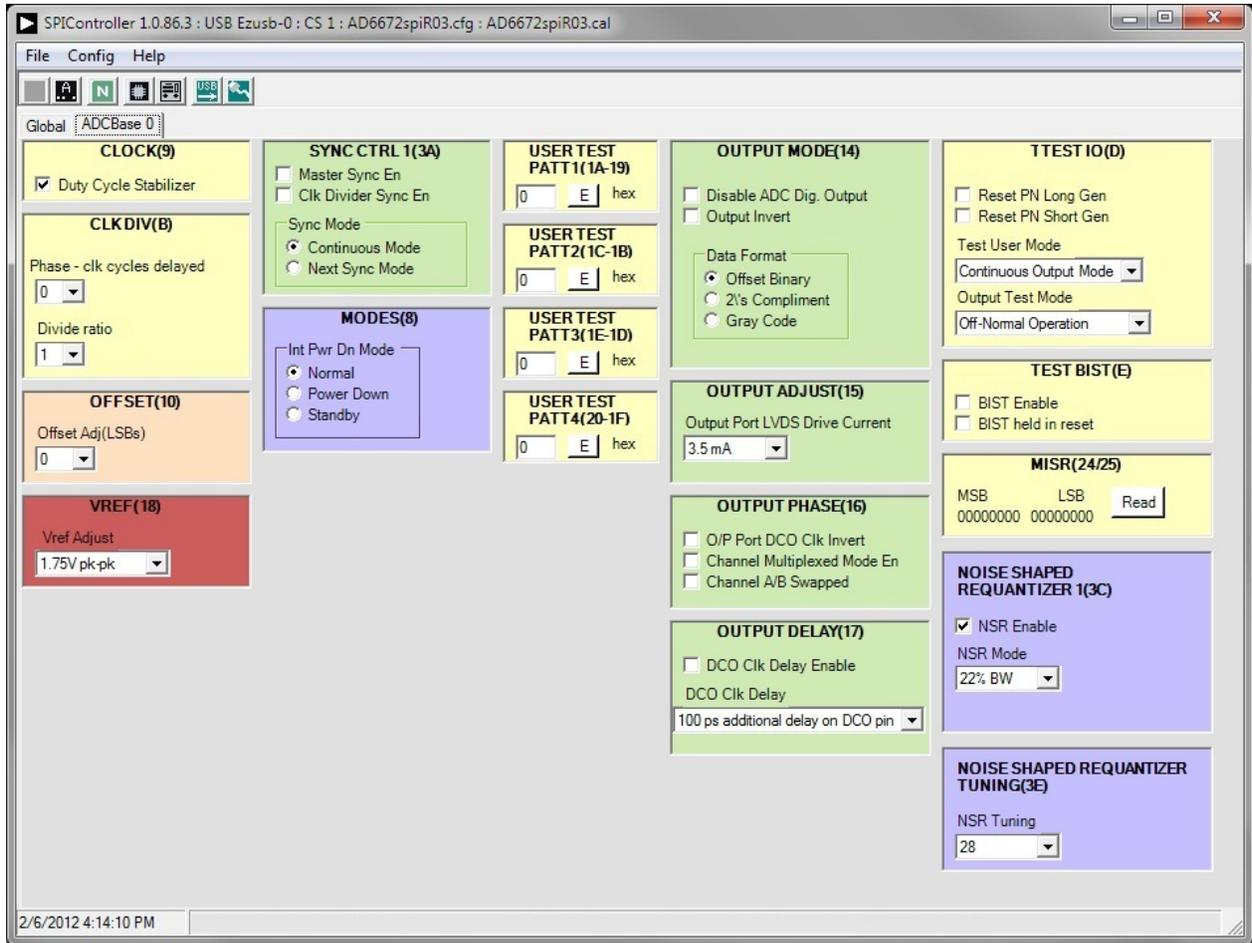

Figure 11. SPI Controller, Example ADCBase 0 Tab—NSR Settings for the AD6672
4. If using the noise shaping requantizer (NSR) feature of the AD6672, the settings in the ADCBase 0 tab must be changed (see Figure 11). The NSR Enable checkbox must be selected under the NOISE SHAPED REQUANTIZER 1(3C) section. This enables the circuitry in the AD6672. To select the bandwidth mode, use the NSR Mode drop-down box in the NOISE SHAPED REQUANTIZER 1(3C) section. Upon selecting the bandwidth mode, select the desired tuning word in the NSR Tuning drop-down menu under the NOISE SHAPED REQUANTIZER TUNING(3E) section.